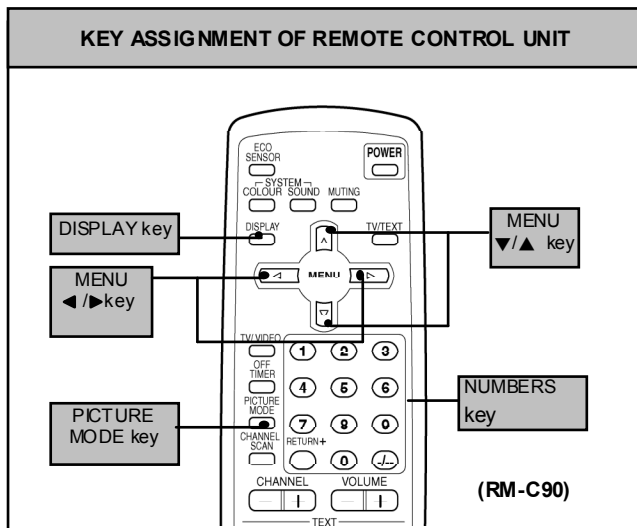

Fig.1
- The SERVICE MENU screen of Fig. 1 will be displayed.